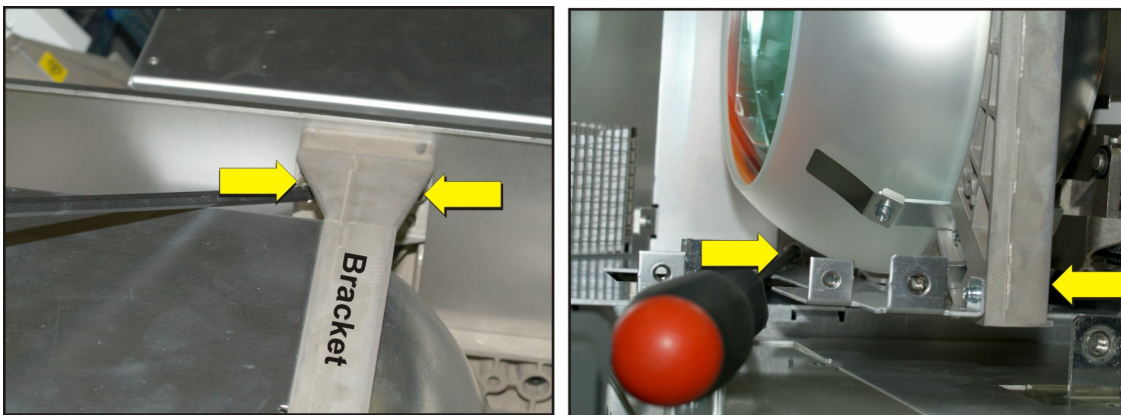

Figure 5-33 Remove Reflector
4. Remove the four screws securing the reflector. Three of these screws are located on the bracket outside the reflector. The fourth screw is located inside the casing below the reflector (**Figure 5-33**).